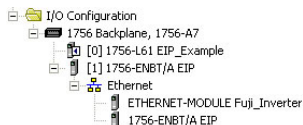

Figure 88: I/O Configuration Tree
- 6) After adding the I/O Module to the configuration, the full I/O Configuration tree should appear similar to Figure 88.